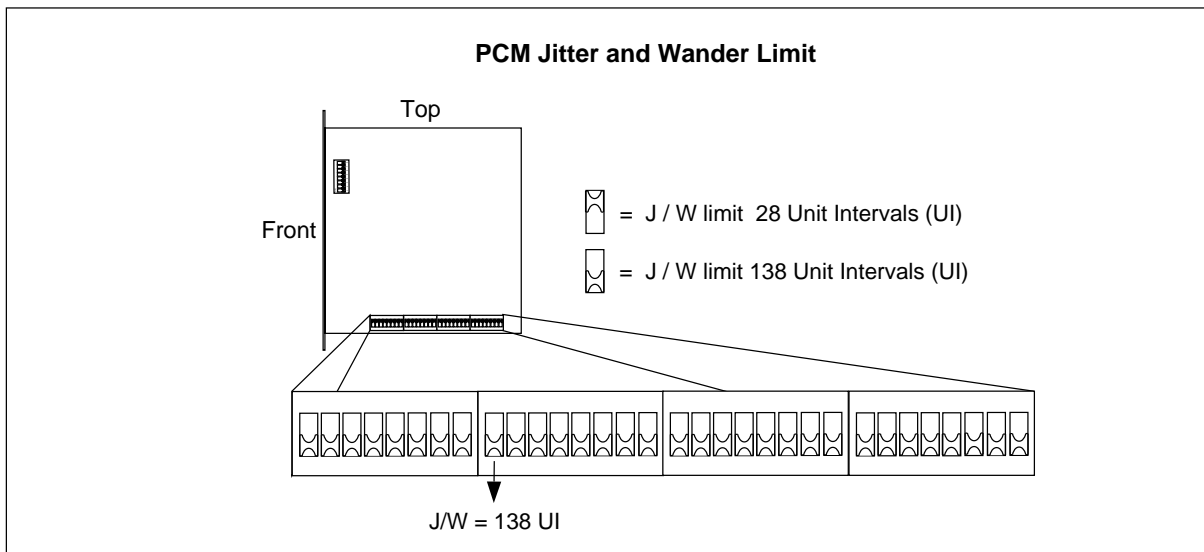

Figure 4-27. Setting the PCM Line Jitter and Wander Limit
13. Set the jitter and wander limit for the PCM line for 138 Unit Intervals (UI), as shown in Figure 4-27 on page 4-43 in accordance with the *Configuration Data* in the *Site Installation Documentation*.